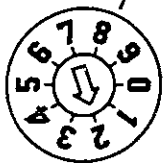

Fig. 4.2.3: Configuration example with the 07 BE 69 R1 expansion subrack for remote I/O couplers
couplers. In doing so, in the basic subrack more slots are available for modules with high complexity (see Fig. 4.2.3).
The 07 BR 60 couplers required for the construction of a remote I/O expansion configuration are placed in basic subracks (BT) and/or in 07 BE 69 in central expansion. The positioning sequence in the basic subrack and in the 07 BE 69 expansion subrack determines the number of the remote line, i.e. the couplers are given the numbers 1...4 in ascending order, starting with the 1st slot to the right of the central unit (see Fig. 4.2.2 and Fig 4.2.3).